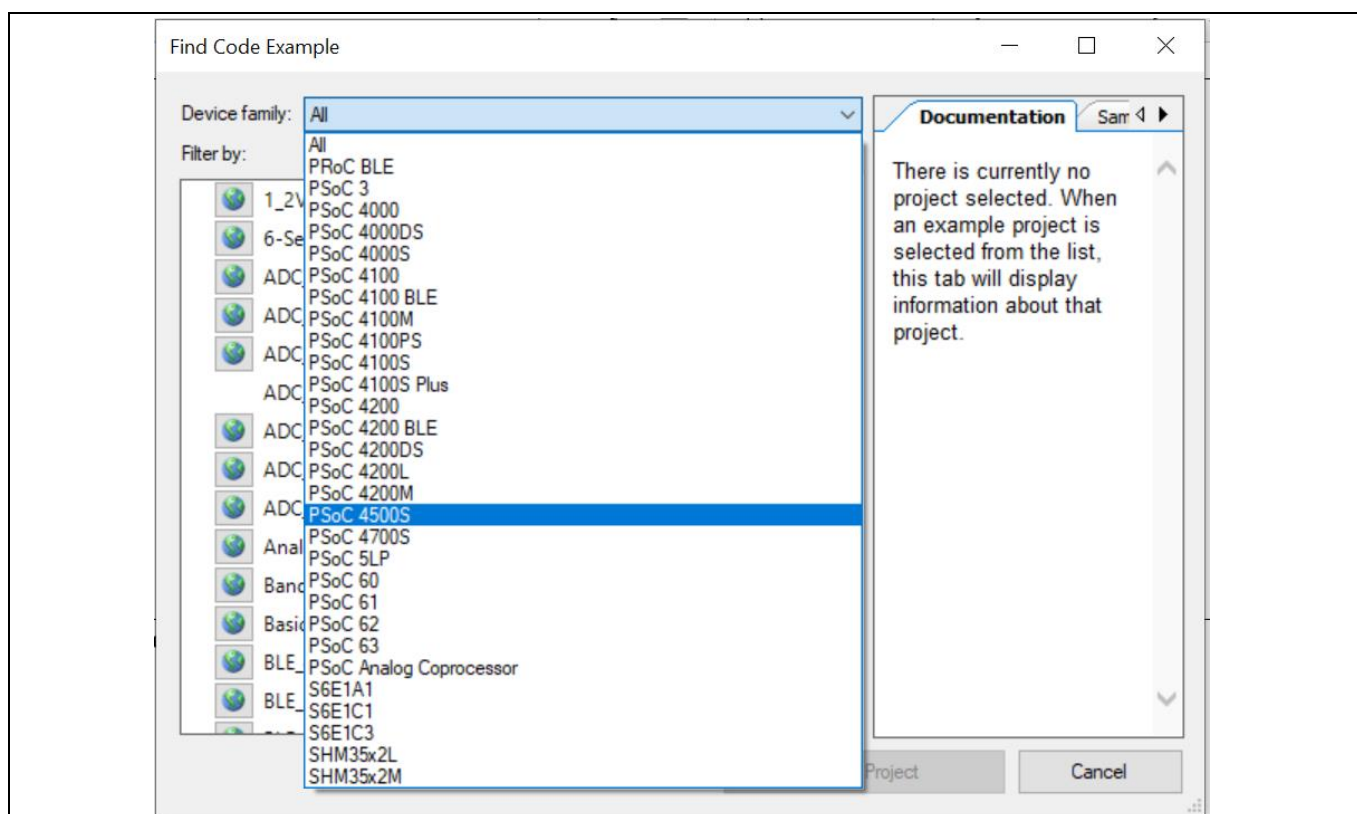

Figure 20 Selecting PSoC 4500S Device Family in Find Code Example Window
3. In the Find Code Example window, set the **Device family** to **PSoC 4500S** as shown in **Figure 20**.